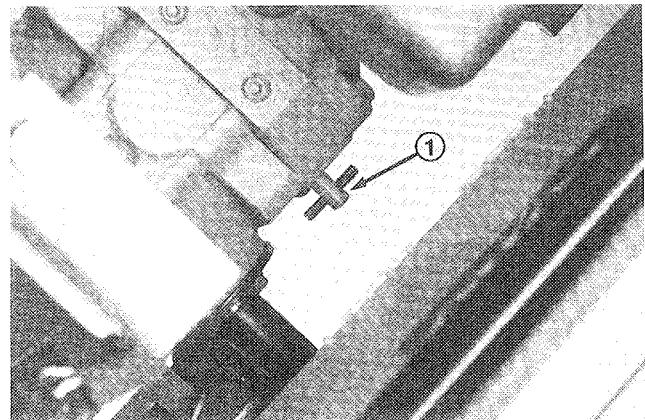

**Figure 9**
1. Mount weight assembly to rear holes in seat support with (2) 5/16-18 x 2-1/4" lg capscrews and locknuts (Fig. 9).